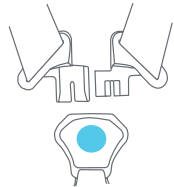

Fig. 38-1
- Type A: Put the two buckle tongues together, overlaying the left buckle tongue onto the right buckle tongue, and insert the two joined buckle tongues into the harness buckle on the crotch strap (Fig. 38-1). Type B: Insert each buckle tongue into the harness buckle (Fig. 38-2). Make sure that you hear the tongues click into the buckle and check that both are firmly latched by pulling upward on the straps. **If the harness straps are not securely buckled, the safety seat will NOT provide protection for your child. DO NOT use the safety seat, even as a carrier, if the harness does not securely buckle. Please call Baby Trend at 1-800-328-7363 for assistance.**